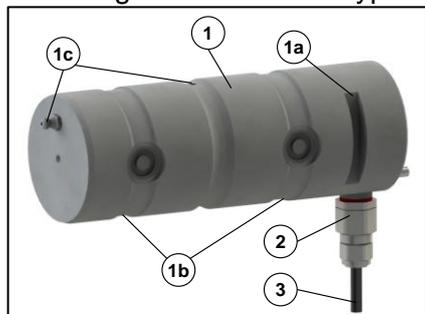

Figure 1: Structure of the force measuring pin
BROSA force measuring pin, types 0201, 0202 and 0203, are used to measure the force in double shear connections in or on machines and devices of all kinds. Figure 1 shows the typical structure:
The force measuring pin (1) is inserted into the mounting holes (2), arranged corresponding to the diameter, of the double shear connection and secured against unintended movement based on the relevant properties (see Figure 1). Force F transmitted from the connection is transmitted to the